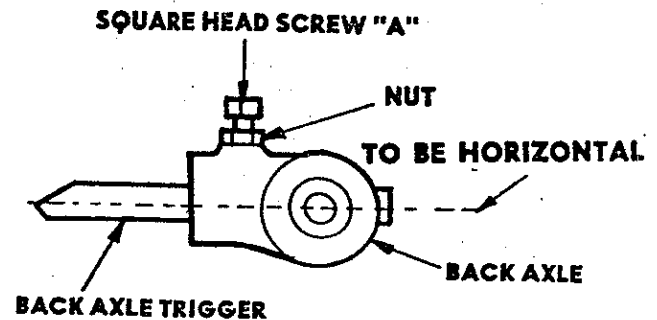

FIG.1
- (a) Check whether the back axle trigger is in nearly horizontal position (Fig 1). Mechanisms fitted with locally supplied sealed clock and requiring 15 seconds per game, require the trigger position to suit proper and secure action of payout lift. (The payout lift should not get stuck on payout lift release).
The minimum clearance requirement, as shown in Fig. 1 should suffice in most cases.